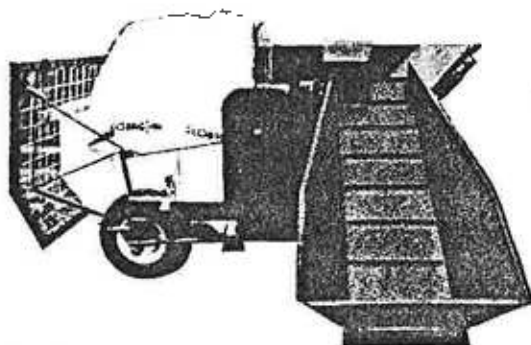

FIGURE 23
- B. Raise the sealed end of the Silobag to the approximate center of the backstop and tie it into place with ropes connected to the upper frame of the backstop. Figure 23